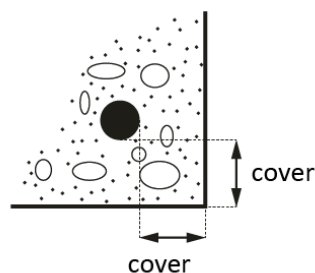

Figure 38: Sketch of the concrete coverage
- The cover is the net distance between the bar and the outer surface of the concrete, as indicated in Figure 38. When calculating the effective depth, the real height of the beam is decreased with this cover and with 10 mm extra to take the thickness of the reinforcement bars into account (which are unknown at that moment).